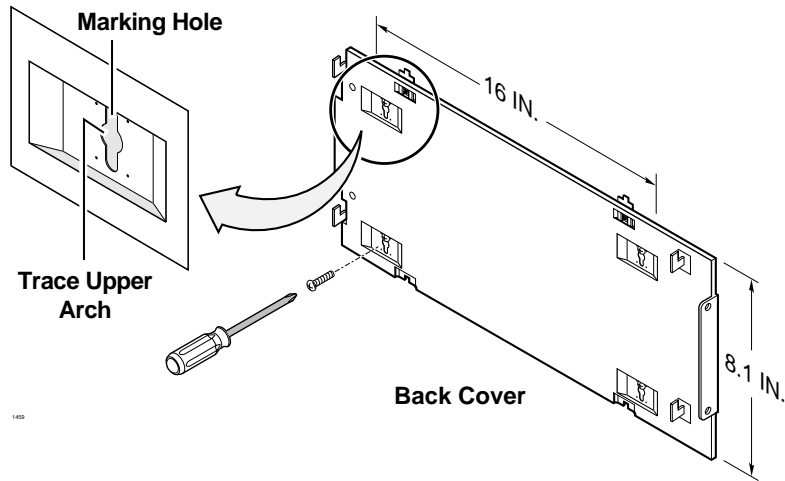

Figure 5-7 DK424 Back Cover Mounting Holes
3. Hold the Base Cabinet back cover against the wall or backboard so that its two top mounting holes are approximately 6-1/2 feet (78 inches) above the floor. This allows seven cabinets to be installed (top-down) with a six-inch clearance between the floor and bottom cabinet (see Figures 5-7 and 5-8).